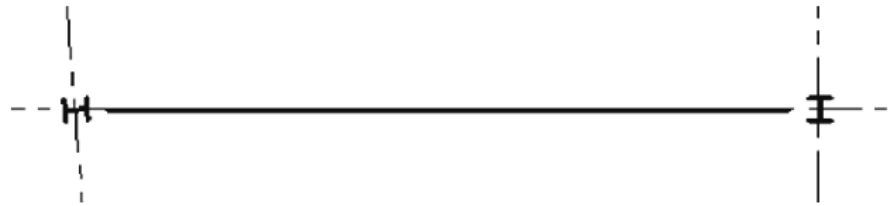

Figure 7-72
3. In a plan view, which of the following changes the display to show the stick symbol for beams, as shown in Figure 7-72?